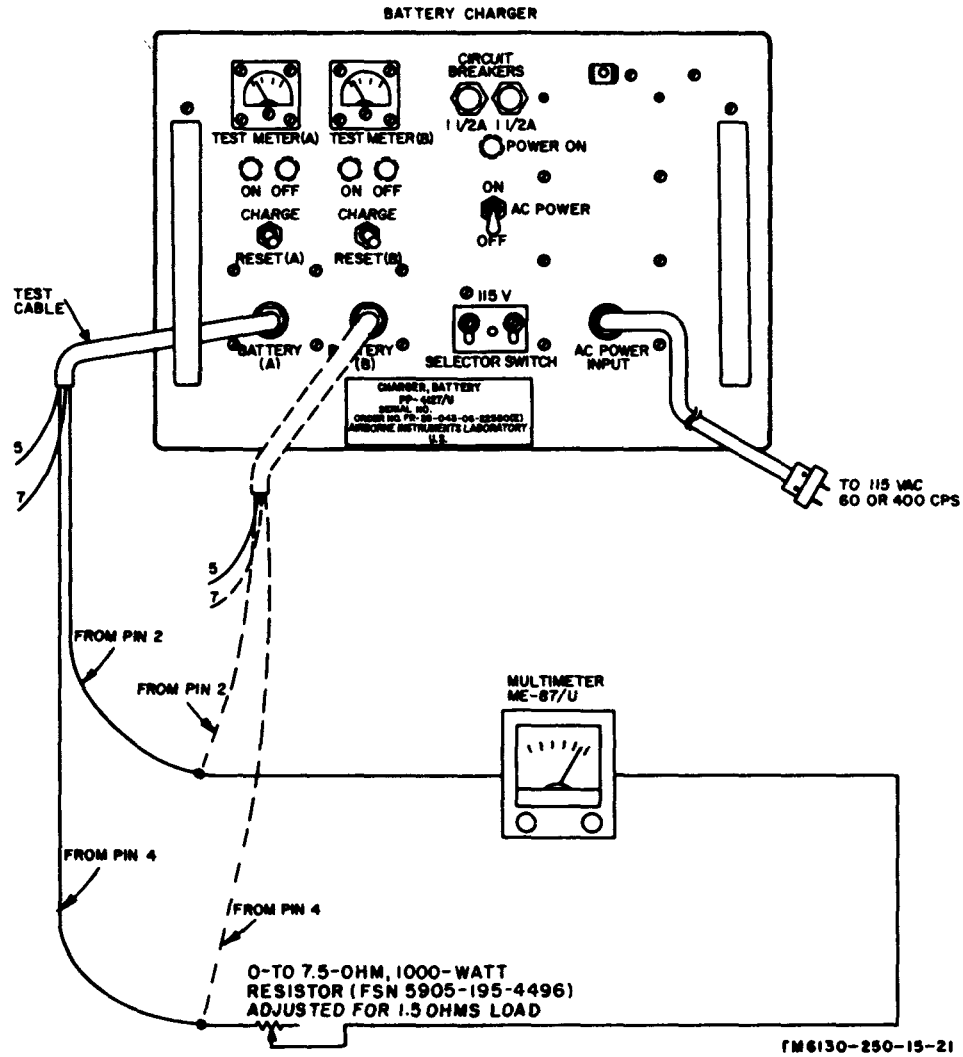

Figure 7-1. Charging current test, 115 volts ac, 60 or 400 cps.
- (1) Multimeter ME-87/U.
- (2) Test Cable (para 5-2h).
- (3) Resistor, Variable, 0- to 7.5-ohm, 1000-watt.
*b. Test Connections and Conditions.* Connect the equipment as shown in figure 7-1. The resistor, variable (0- to 7.5-ohm) should be adjusted for a 1.5-ohm load resistance.